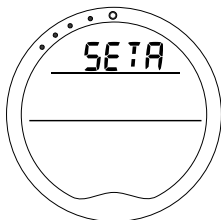

Fig. 51 - Set A
- > Depressing the A and S buttons simultaneously for 4 seconds while in the SURFACE MODE will access SET A identified by the graphic SETA (Fig. 51).